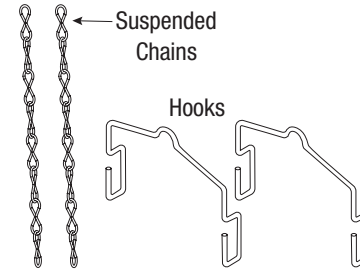

Figure 1
1. Attach V-Shaped hangers to the luminaire by placing the hooks into the hole slots on either side of the luminaire (**Figure 1**).